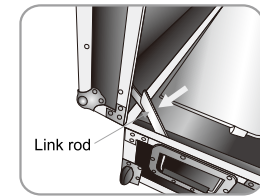

Figure 1
1. Open the flight case, press down the corner link rod as the arrow sign indicates till the rod fully outspreads, then take out the parts and lay it on a smooth location ( Figure 1 - 2 ).